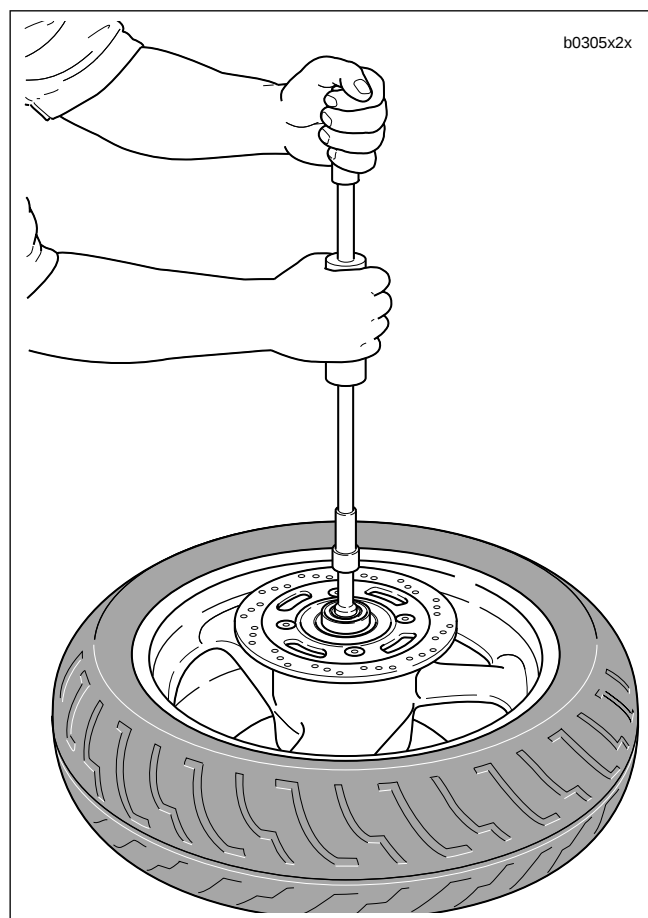

Figure 2-8. Removing Wheel Bearing
3. See Figure 2-8. Install axle nut.
- b. Install washer (3) and axle nut (4) (metric) over threaded end of axle.
- c. Insert screwdriver or steel rod through hole (1) in axle.
- d. While holding axle stationary, tighten axle nut (4) (metric) to 48-53 ft-lbs (65-72 Nm).
4. Tighten the four front axle pinch screws (2) (metric) to 13-15 ft-lbs (18-20 Nm).
1. See Figure 2-8. Move wheel to bench area. On the brake rotor side of the wheel, remove bearing using BUSHING AND BEARING PULLER (Part No. HD-95760-69A) and 1 1/8 in. COLLET (Part No. HD-95769-69).